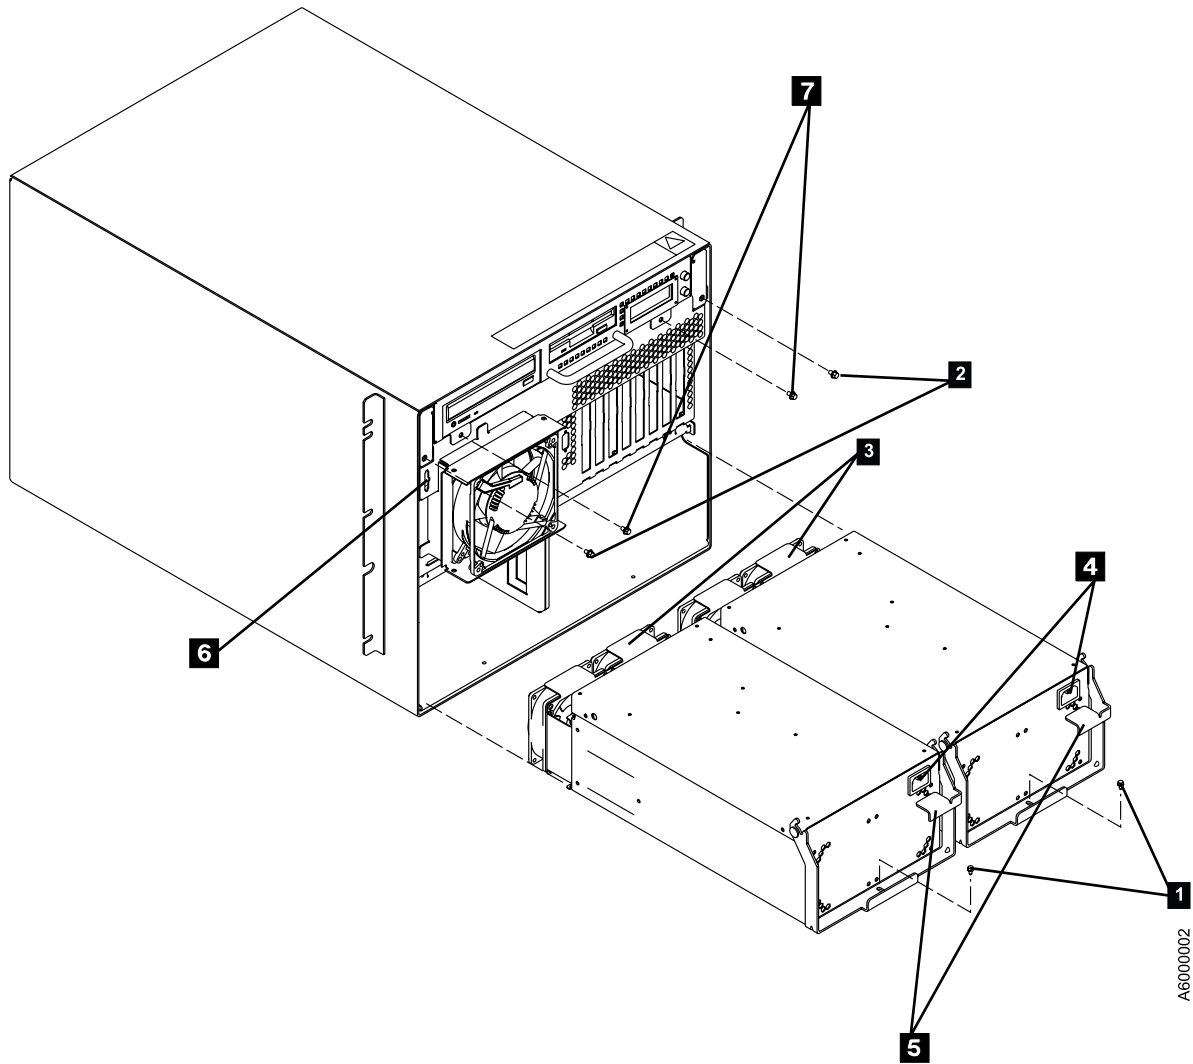

Figure 74. A60 Controller Rear View
- \_\_\_ Step 1. Remove power supply housing mounting screw, refer to Figure 74 on page 313 **1** one per Power Supply.
- \_\_\_ Step 2. Unplug power cord from power supply affected, refer to Figure 74 on page 313 **4**
- \_\_\_ Step 3. Lift power supply actuator handle Figure 74 on page 313 **5** and gently remove power supply from Model A60 housing.
- \_\_\_ Step 6. Slide fan assembly, refer to Figure 74 on page 313 **3**, in direction away from chassis mounted fan connectors and remove from Power Supply Assembly.
- \_\_\_ Step 5. Close power supply actuator handle refer to Figure 74 **5**
- \_\_\_ Step 6. Replace power cord to power supply refer to Figure 74 **4**
- \_\_\_ Step 7. Replace Power supply housing screw, refer to Figure 74 **1**